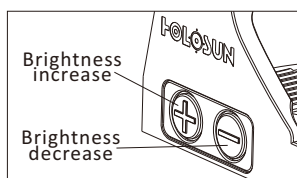

Fig 6
**1. Switch on:** Press and release either brightness button ("+" or "-") to turn on the sight, See Fig 6.